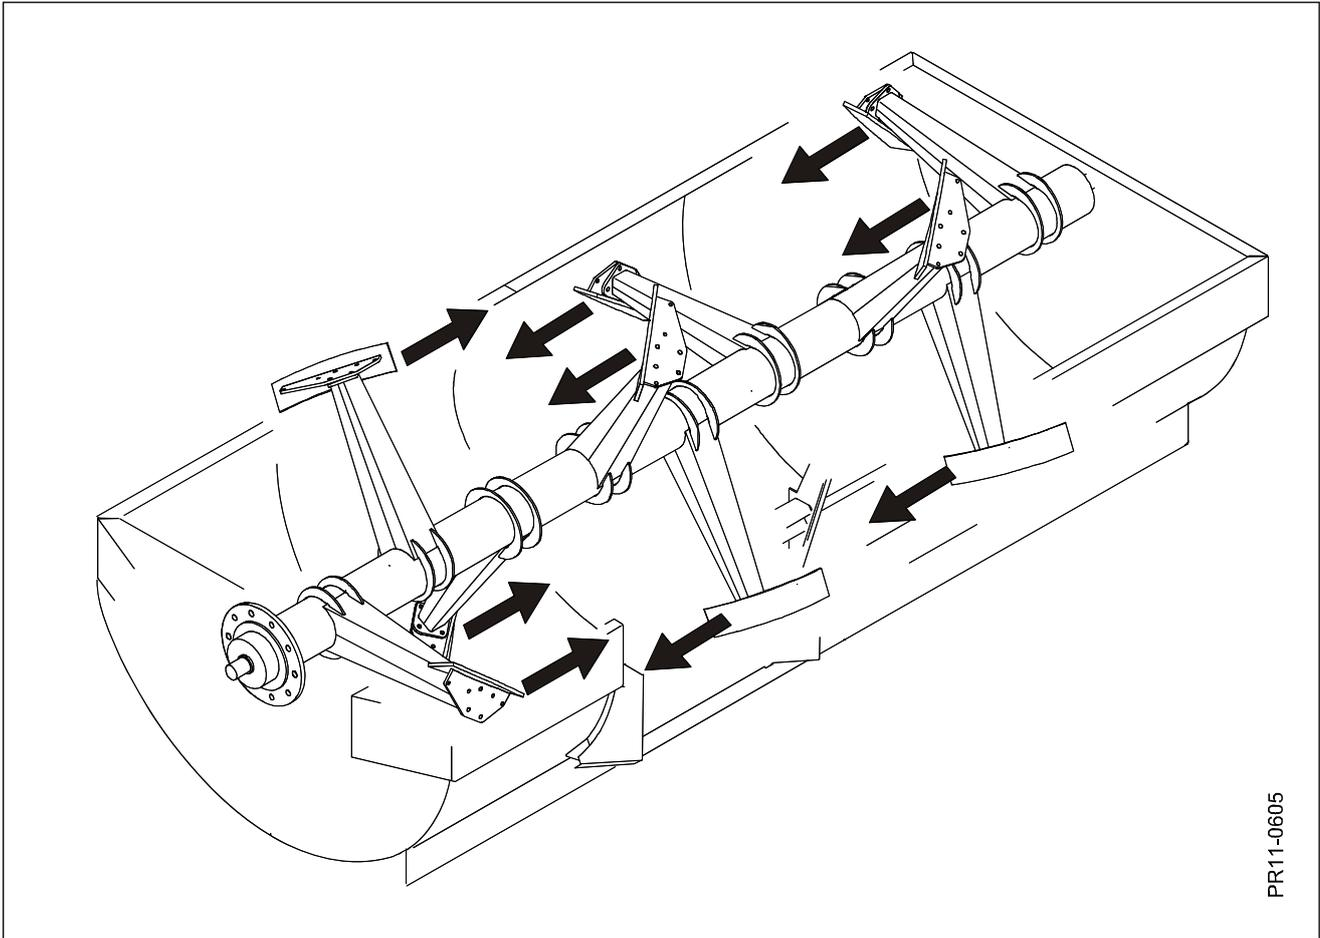

Fig. 2.1
**Fig. 2.1** The paddles are inclined to obtain a mixing process where the material is mixed in the trailer's longitudinal direction. The inclined position also helps to move the material towards the outlet when feeding.